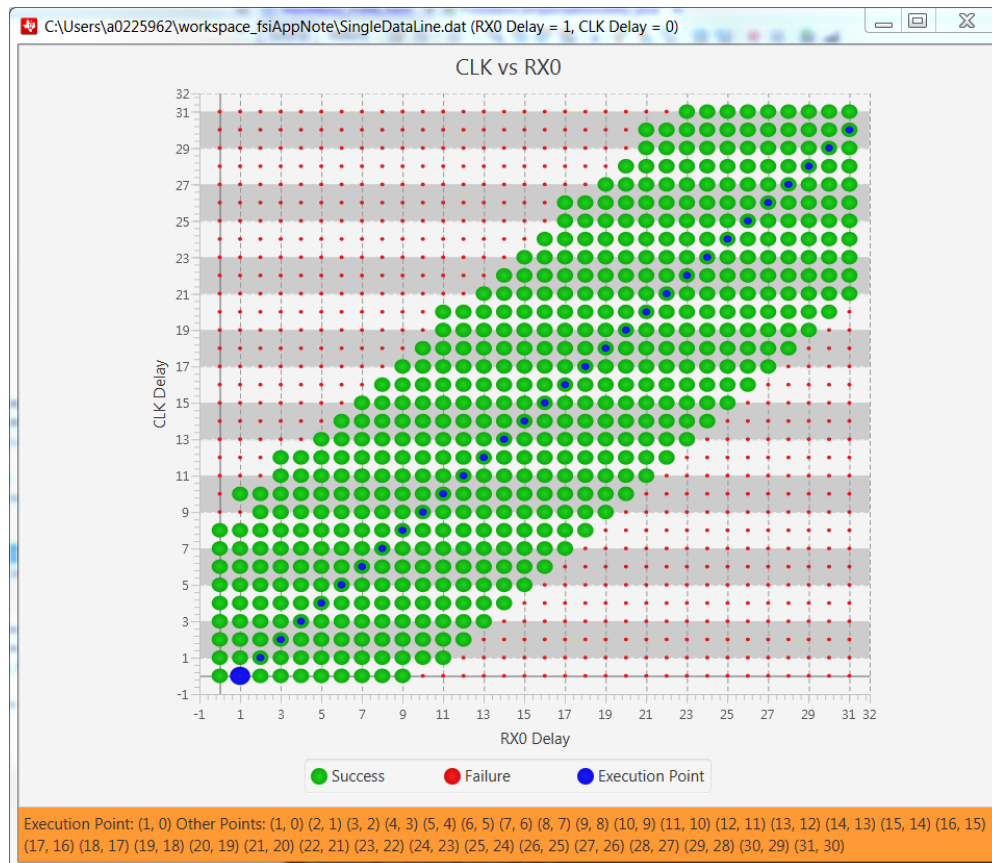

Figure 16. FSI Skew Compensation Utility - Single Line Data Result
- After the input file is selected, the utility graphs the result. This graph is shown in Figure 16. The green symbols show the RXD0 and RXCLK delay values at which the communication was successful. The red symbols show the delay values at which the communication fails. The blue symbols show the best delay values which will allow the most margins for data to pass.